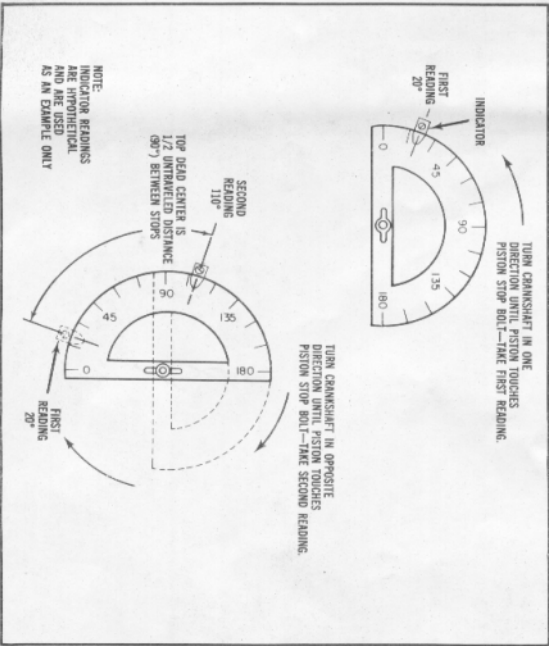

FIGURE 14
- Thread the piston stop bolt all the way through the spark plug shell and into the cylinder bore. Turn the crankshaft (either way) until the piston touches the piston stop bolt. At this point, take the degree wheel reading. Turn the crankshaft in the opposite direction until the piston again stops at the piston stop bolt. Take a second reading (Figure 14).
- The untraveled degree distance between the two stops (Figure 14) can now be used to locate top dead center. One-half of this distance represents top dead center. If, for example, the degree distance not traveled by the crankshaft rotation is 90 degrees, top dead center is 45 degrees.